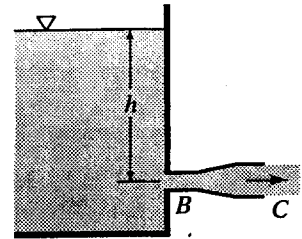

Figure P5.34
- 5.35 Referring to Fig. P5.34, assume the tube flows full and all friction losses are negligible. The diameter at B is 60 mm and the diameter of the jet discharging into the air is 80 mm. If $h = 5$ m, what is the flow rate? What is the pressure head at B? What would be the flow rate if the tube were cut off at B?